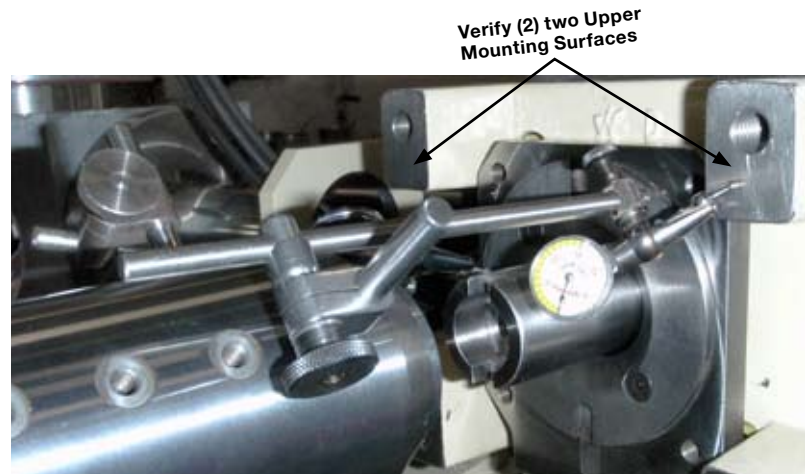
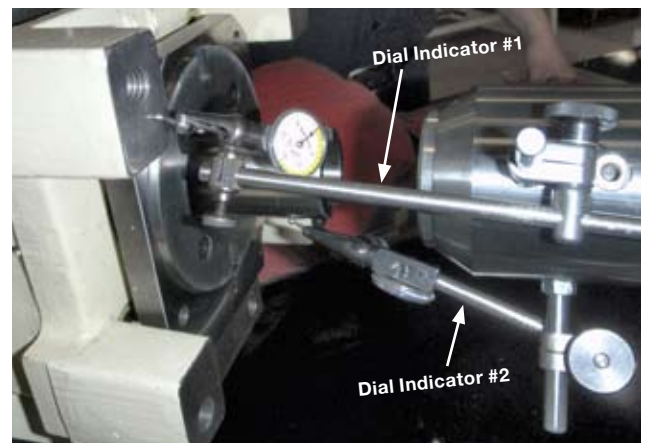

Figure 5: Using a Dial Indicator to verify the Bottom Maker is squared to the Mandrel Turret
Figure 6: Aligning Bottom Maker to Mandrel Turret, using Test Mandrel & (2) two Dial Indicators.
- 2) Mount the Test Mandrel to the face that is in front of the Bottom Maker and install (2) two Dial Indicators as shown in Figure 5 and Figure 6.
NOTE: The other Dial Indicator is used (at the same time) to achieve "0" across the (2) two Upper Mounting Surfaces for the Die Block. See Figure 6.
- 5) When all the required Dial Indicator readings are obtained, the Mandrel Turret and Bottom Maker must be lock-down tight. Torque all (5) five 1/2-13 Bolts on the Bottom Maker Mount base to 75 ft-lb, and the (4) four 1/2-20 Bolts on the Mandrel Turret to 90 ft-lb.